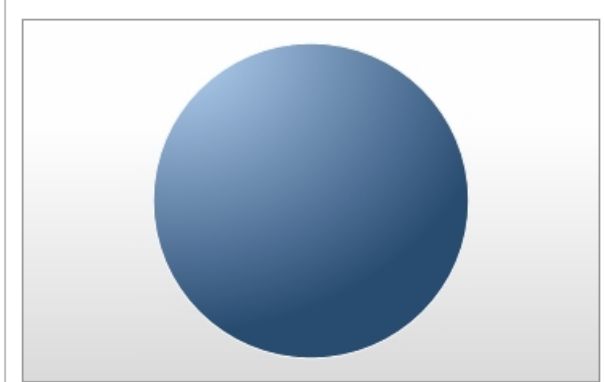

Figure 4: The gateway details
- Also note that the gateway always fires the same sequence flow (see figure 4)